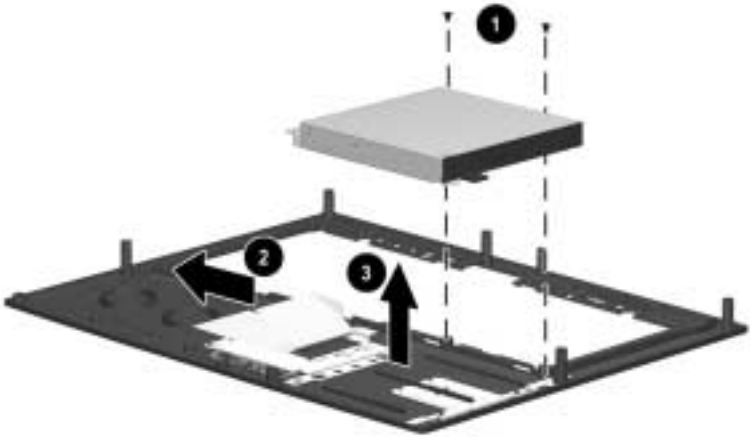

Figure 5-15: Removing the Diskette Drive
3. Remove the two M2.5 × 4.5 screws securing the diskette drive to the top cover ❶ (Figure 5-15).
4. Remove the tape adhering the diskette drive and TouchPad cables to the top cover ❷.
5. Remove the diskette drive from the top cover ❸.